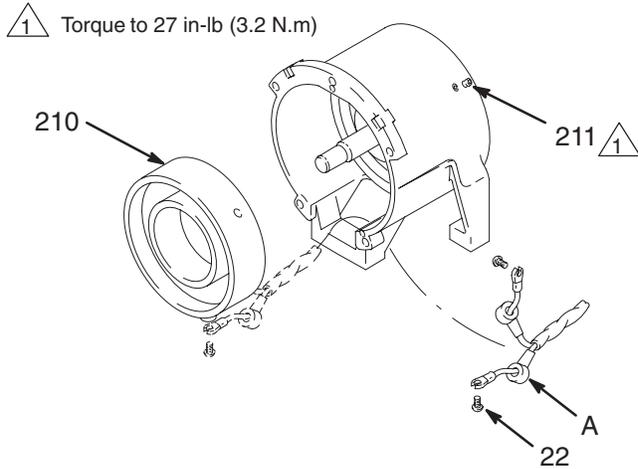

Fig. 18
1. Install the **field (210)** in the clutch housing (222). Working through the slot in the clutch housing, connect the wires of the harness (64) to the screws (22) in both places on the field. Pull the plastic caps (A) up and snap them over the screws. With the setscrew holes in the field and the clutch housing aligned, tighten the setscrews (211) oppositely and evenly, to 27 in-lb (3.2 N.m). See Fig. 18.